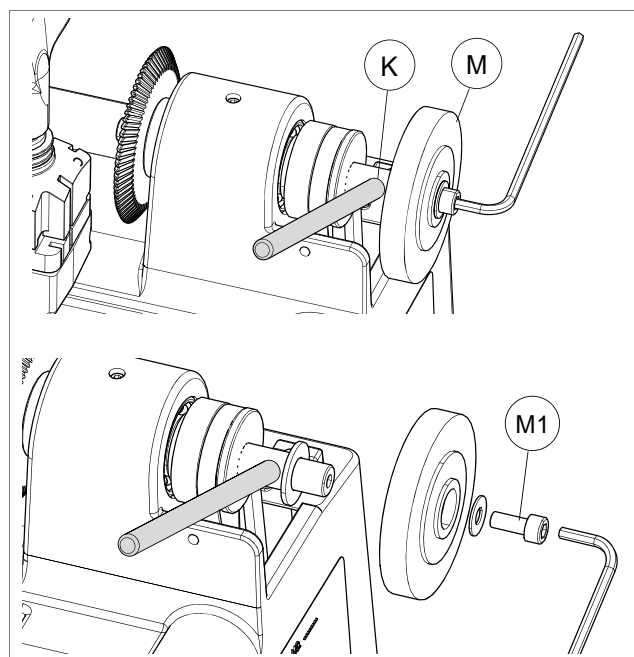

Fig. 29
- 2) Slot the locking rod (provided) into the hole (K) of the cutting tool shaft (Fig. 29).
- 3) Use the Allen wrench to loosen the screw (M1) holding the brush (M) in place (Fig. 29).
- 6) Install the protective cover (L) and secure with the 3 screws (L1).